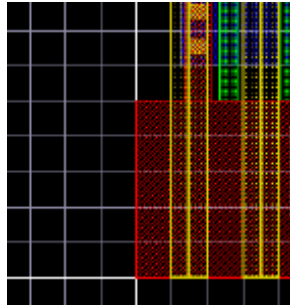

Figure 4 Cutout of Layout Window Showing 4 λ Display Grid
17. Utilize the Virtuoso display grid to make layout to the routing grid easier as shown in Figure 4: